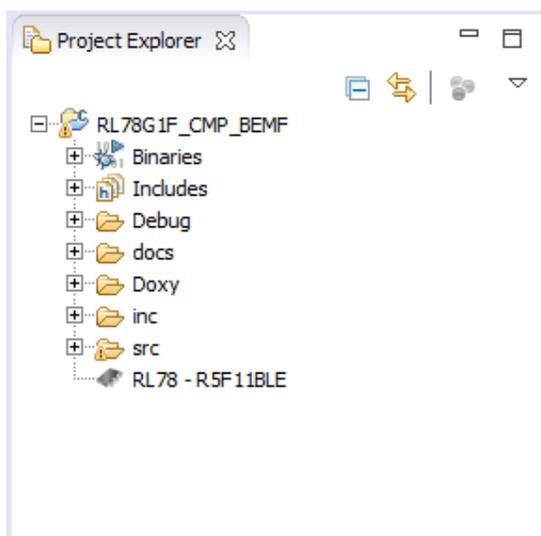

Figure 20: Project Explorer Panel after Import
- 6) Project should look like Figure 20: